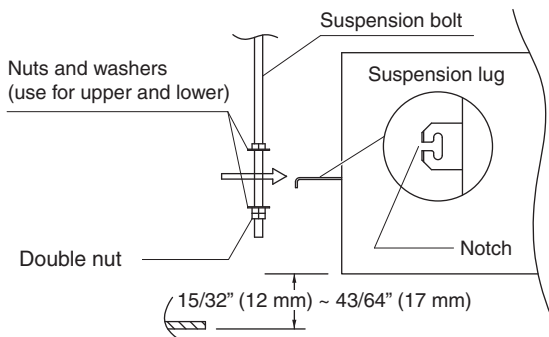

Fig. 3-5
- (3) Thread the 3 hexagonal nuts and 2 washers (field supply) onto each of the 4 suspension bolts as shown in Fig. 3-5. Use 1 nut and 1 washer for the upper side, and 2 nuts and 1 washer for the lower side, so that the unit will not fall off the suspension lugs.
- (4) Adjust so that the distance between the unit and the ceiling bottom is  $15/32$ " (12 mm) ~  $43/64$ " (17 mm). Tighten the nuts on the upper side and lower side of the suspension lug.
- (5) Remove the protective polyethylene used to protect the fan parts during transport.
- (6) Check with a tape measure or carpenter's level.